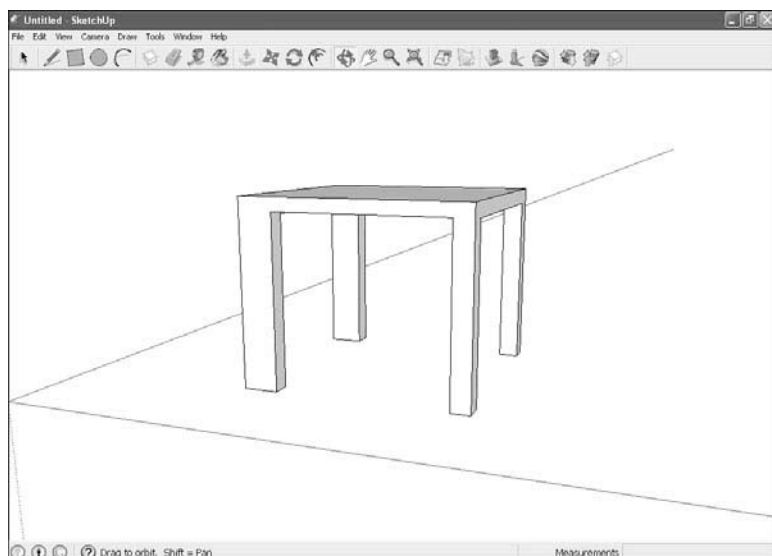

FIGURE 5.20 A 3D table.
You often draw 3D objects by subtracting elements. To show how this works, we'll draw a table like the one you see in Figure 5.20.
- 16.** Push the rectangle through until you get a cutout in the shape of the rectangle. That creates the table in Figure 5.20.